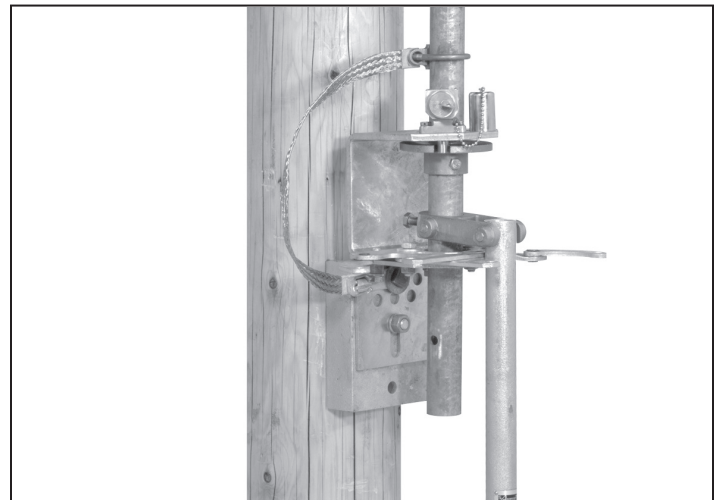

Figure 24. Disengage the key interlock bolt.
- (b) If the operating-handle assembly is furnished with a key interlock, disengage the interlock bolt. See Figure 24.